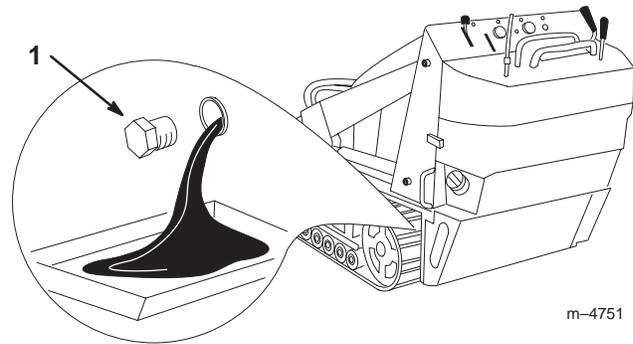

Figure 27
4. Remove the drain plug (Fig. 27).